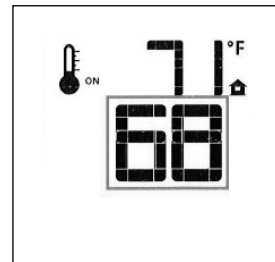

Figure 58. Change Set Temperature.
- To adjust the Set Temperature, press the Up or Down Arrow Keys until the desired Set Temperature is displayed. Fig. 58.